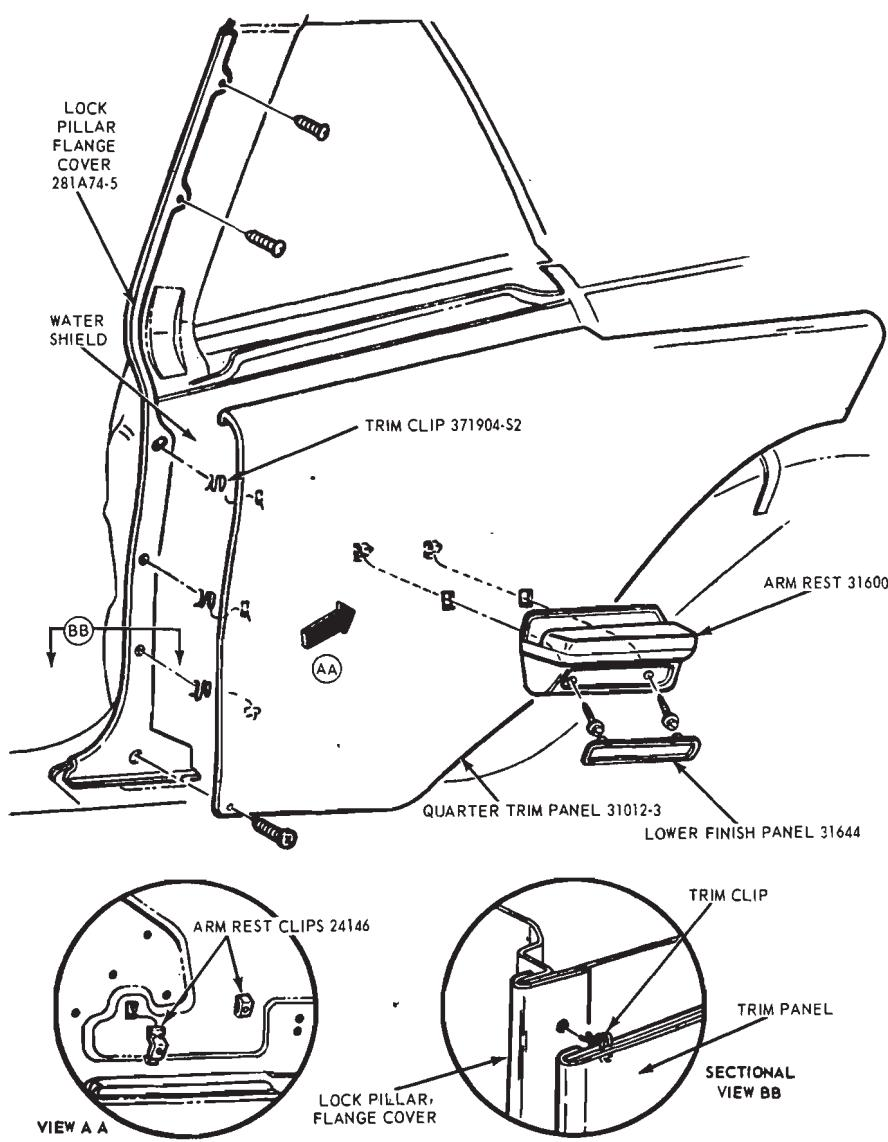

FIG. 5—Typical Quarter Trim Panel Installation
4. Remove the trim panel attaching screw(s). Then, unclip the trim panel retaining clips and pull the trim panel from the quarter panel (Fig. 5). Disconnect the power window switch